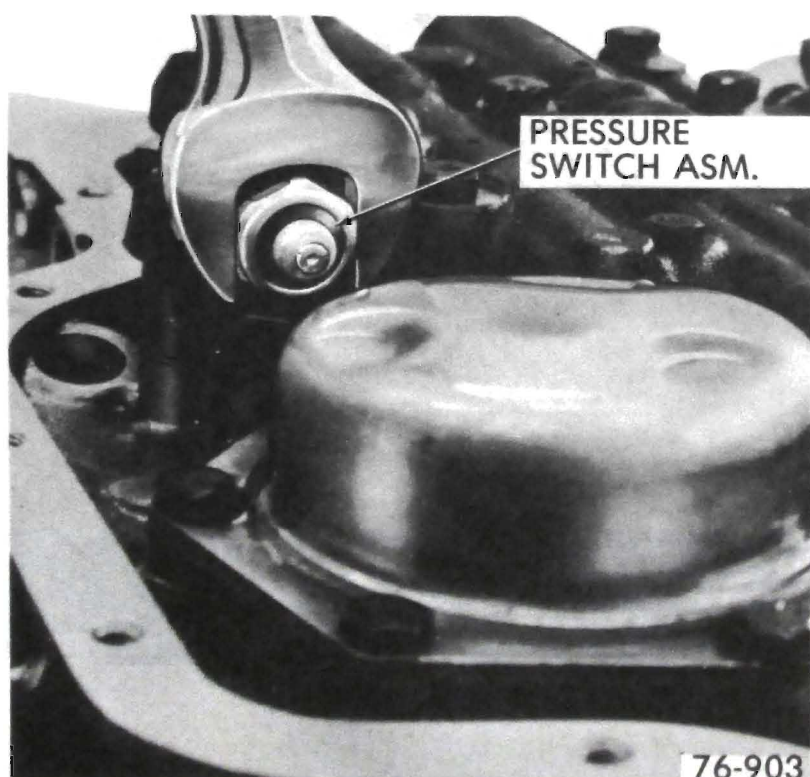

Figure 76-58
2. If necessary, remove the pressure switch assembly. See Figure 76-58.